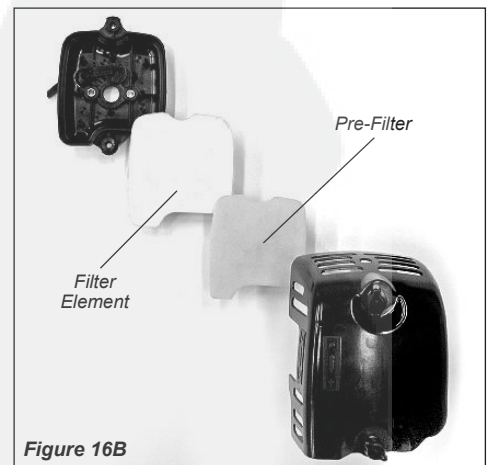

Figure 16B
2. Remove and inspect the pre-filter. If the pre-filter is torn or otherwise damaged, replace it with a new one. See Figure 16B.